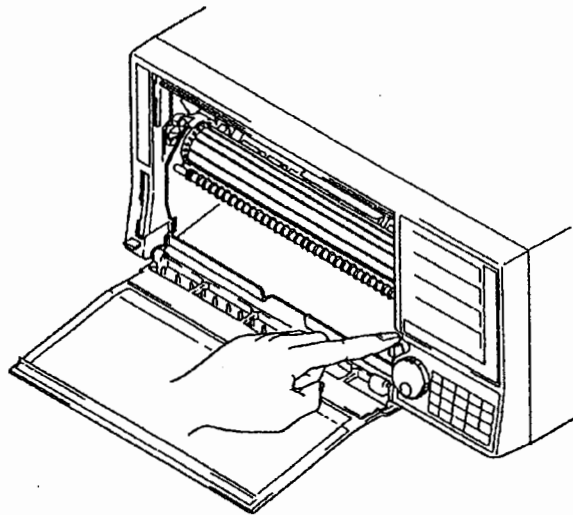

Figure 6.1
- (1) Open the front panel ① and push the right-hand stoppers ② on the chart tray to lift the unit. (Figure. 6.1)
- (2) Open the front panel and remove the chart tray from the recorder. (See Figures. 6.1 thru 6.3)